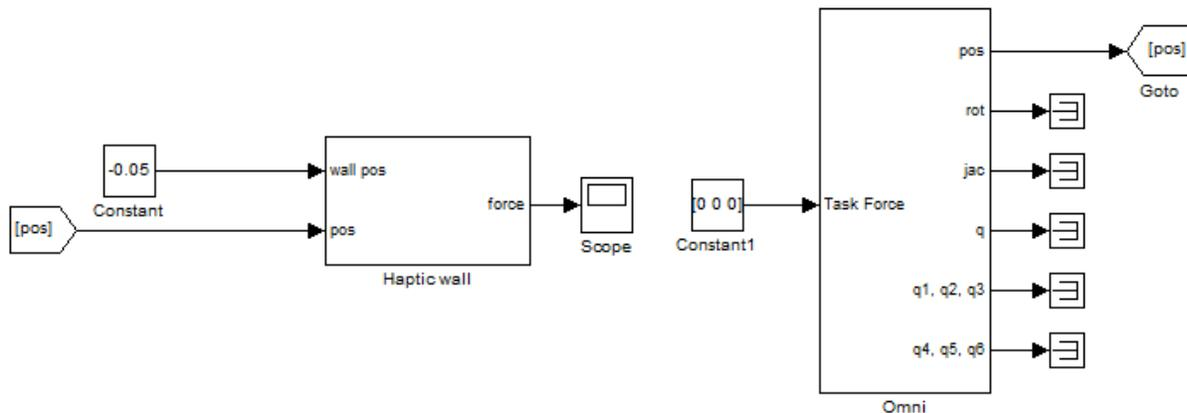

Figure 11.4: Haptic wall model
- Attach a scope to the output force. Your model should resemble Figure 11.4.